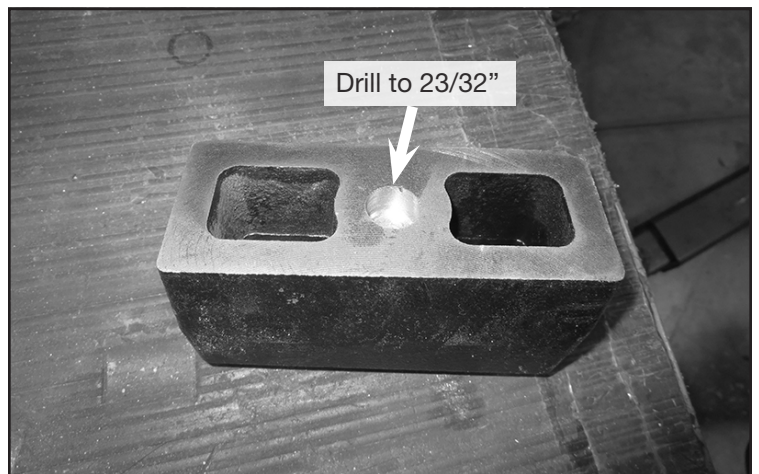

FIGURE 66 - STEP 56
56. Using 23/32" drill bit. Drill out the centering pin hole on both new blocks. **SEE FIGURE 66.**